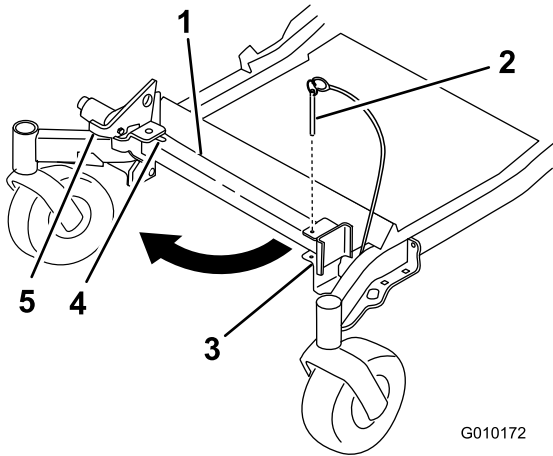
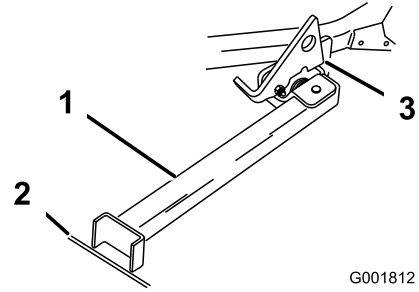

Figure 32
Figure 33
2. Remove the bracket pin (Figure 32).
4. Swing the stand foot out front and slide it toward machine, into the bottom of slot (Figure 32 and Figure 33).
5. Set the foot of the stand on the ground and rest the latch on the pivot tab (Figure 33).
Note: For best results, place the foot of the stand into the seams in sidewalks or into the turf (Figure 33).
7. Drive the machine onto the stand. Stop when the latch drops over the tab into the locked position (Figure 33).
5. Return the stand to its rest position (Figure 32).